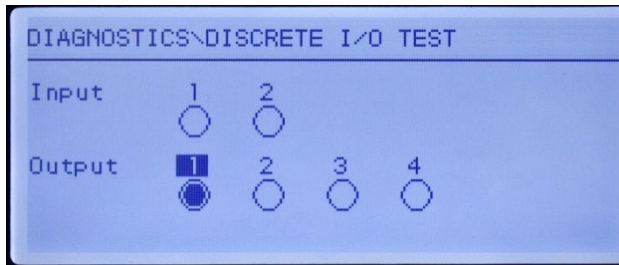

Figure 5-13: Discrete I/O Test Screen, Output 1 Active
3. Focus for control of a specific output is indicated by reverse video of the number above the output. When an output is in focus, pressing the UP navigation key turns the output ON. A smaller, solid circle is shown to indicate that output is ON. This is shown in Figure 5-13.